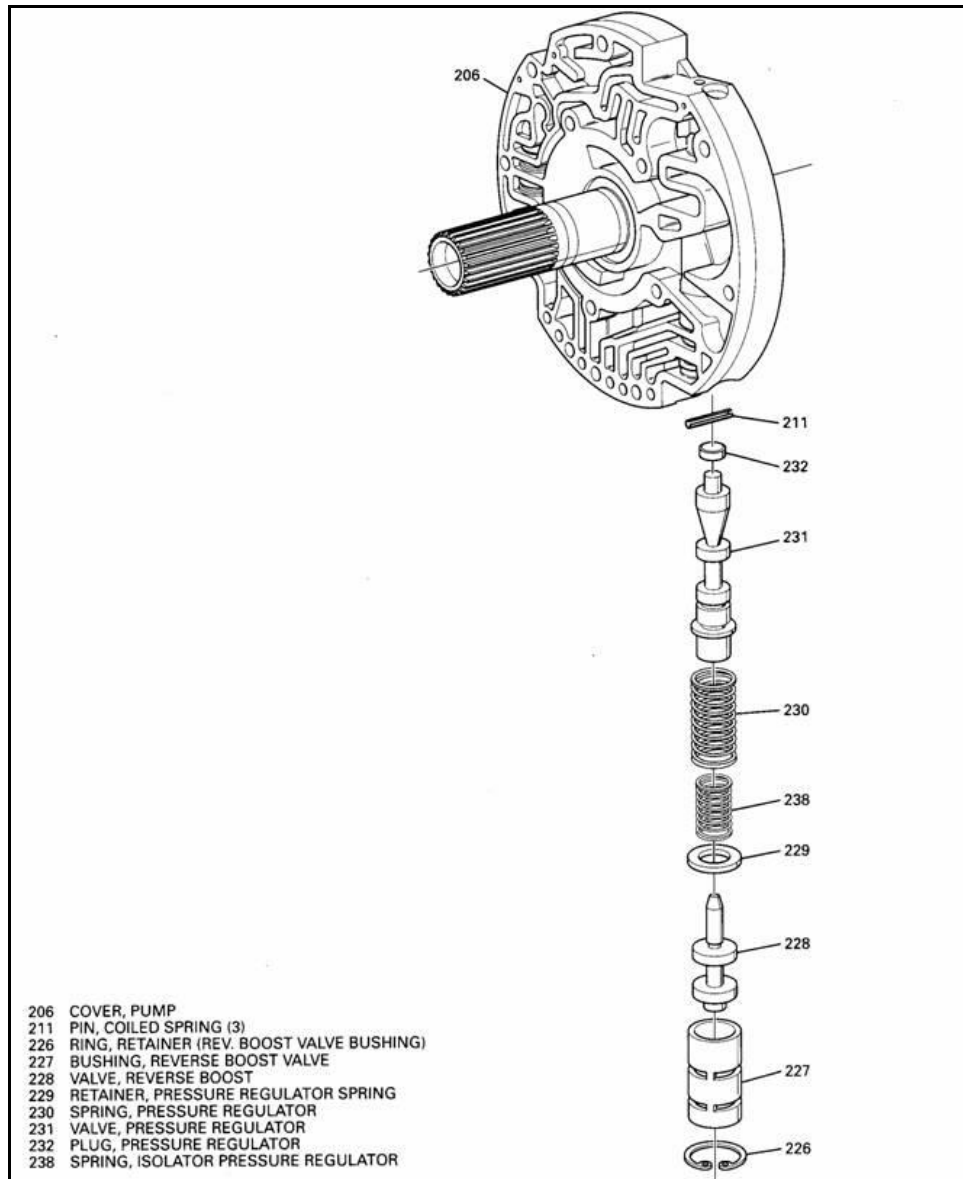

FIGURE 1
Remove the OEM Pressure Regulator Spring (230) and OEM Isolator Pressure Regulator Spring (238) from the oil pump. Two pressure regulator springs are supplied in this kit. The Violet spring will furnish approximately 185-190 psi maximum line pressure, and its use is recommended for applications up to 650 lbs. ft. The Orange spring will furnish approximately 225-230 psi maximum line pressure, and its use is recommended for applications over 650 lbs. ft. Select the appropriate pressure regulator spring based on the intended application and install it into the oil pump along with the supplied Purple Isolator Pressure Regulator Spring. See Figure 1.